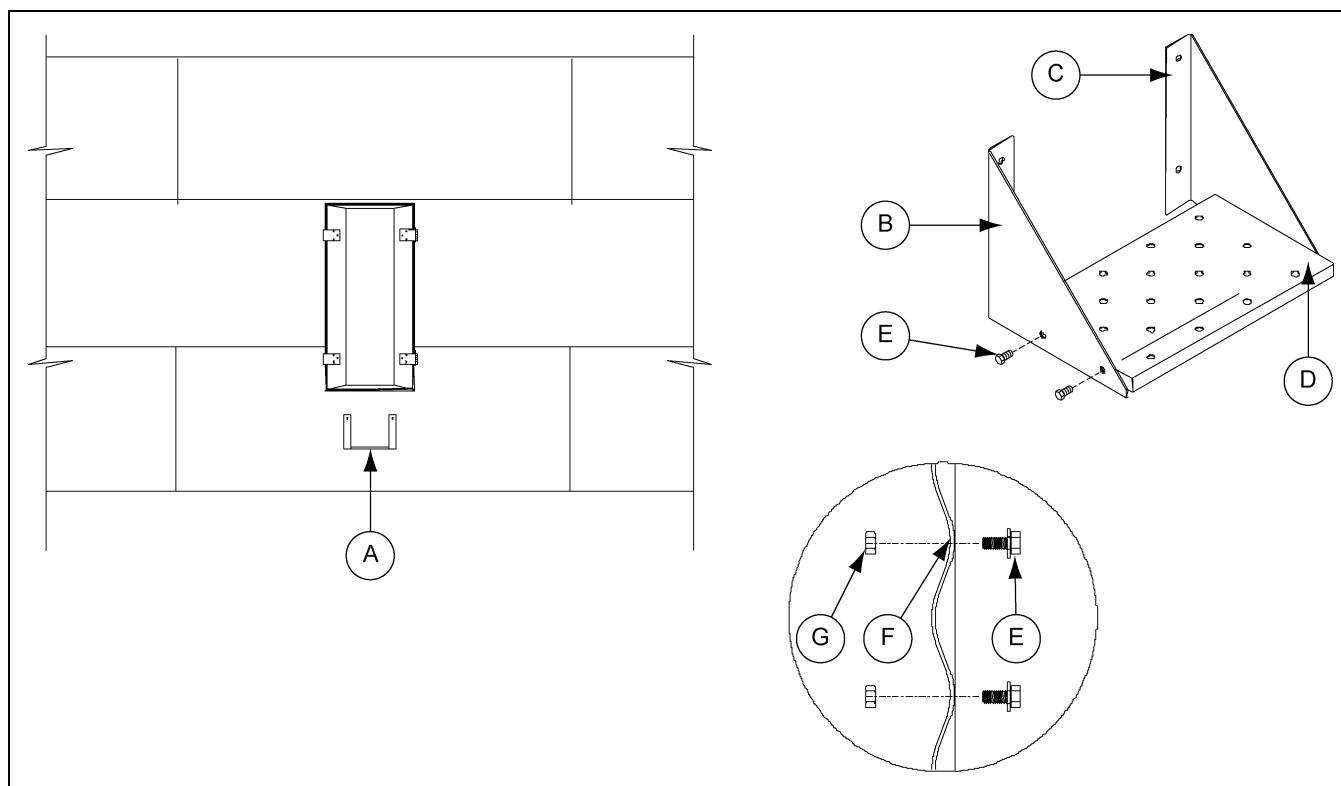

Figure 8M Bin Step
1. Attach the left and right sides (B and C) to the sides of the bin door step (D) using bolts (E) and nuts (G).
2. Center the assembled step under the bin door and use it as a template to field drill the holes (F) in the sidewall sheet on the ridges of the corrugation.
3. Install the bin step (A) to the sidewall sheet using bolts (E) and nuts (G). *(See Figure 8M.)*